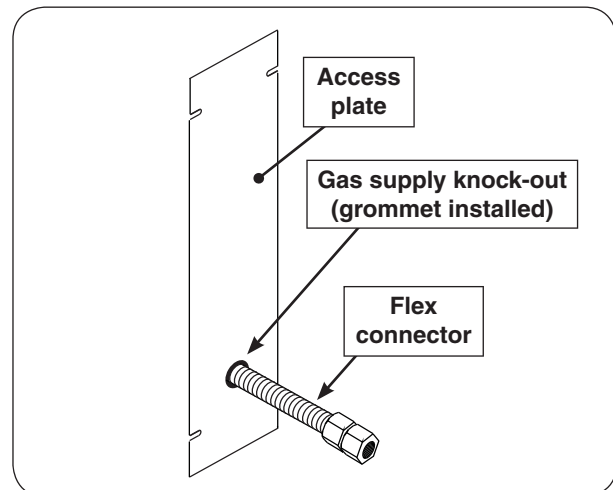

Fig. 11-2 Access plate view & install orientation
2. Remove the plastic grommet fastened to the inside of the post and insert it into the newly created opening. Then route the flex connector through the opening. See Fig. 11-2 and 11-3.